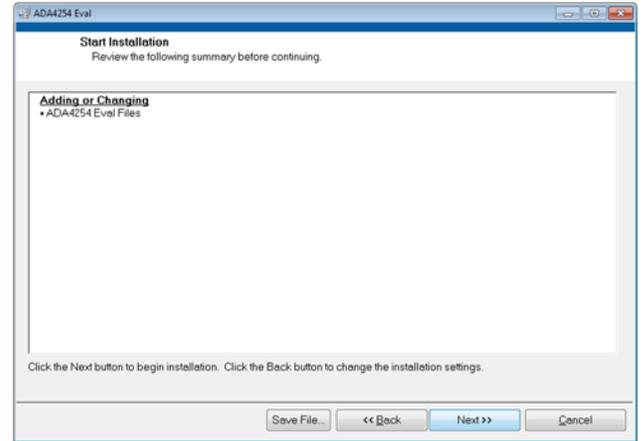

Figure 9. Start Installation Window
5. The window shown in Figure 9 summarizes which files are installing. Click **Next >>** to install the software listed in the window.